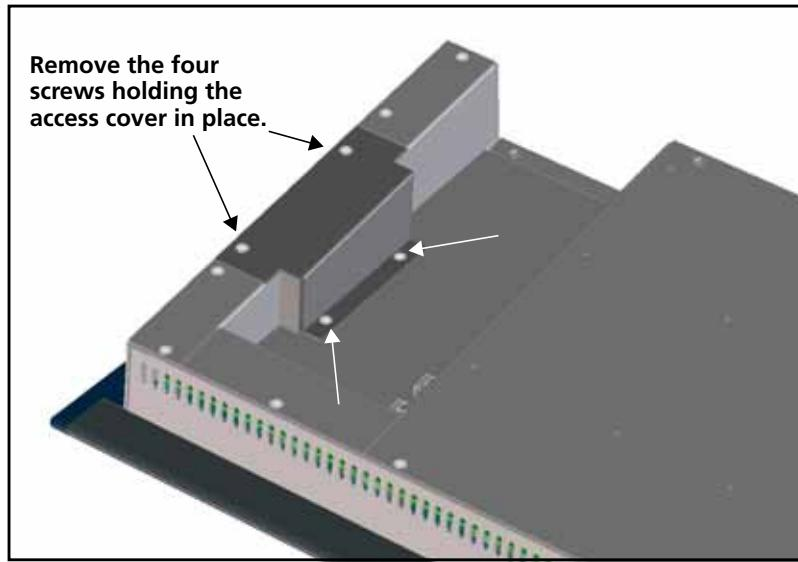

Figure 2-47 Removal of Access Cover
- 2 In the connector bay on the left side, remove the four screws that hold the fader bar access cover in place (see Figure 2-47).